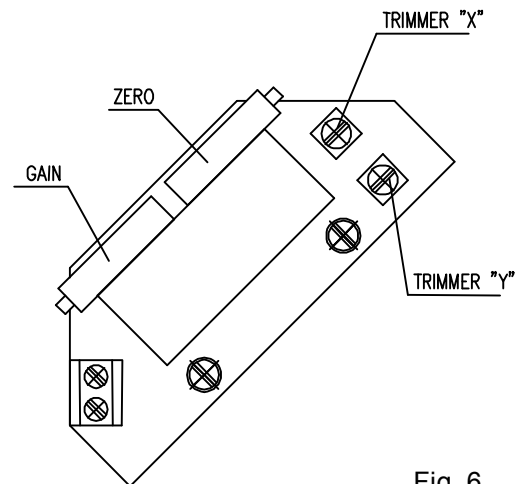

Fig. 6
3.1 EPV – the 2-wire version (Fig. 6)
- Adjust the resistive transmitter according to the previous chapter. The resistance is to be metered on the terminals X-Y (Fig. 6). The used transmitter resistance is 100 Ω.
- Turn the adjusting trimmer ZERO (Fig. 6) to adjust the output current signal rate measured on the terminals 81-82 to 4mA.
- Turn the adjusting trimmer GAIN (Fig. 6) to adjust the output current signal rate measured on the terminals 81-82 to 20mA.